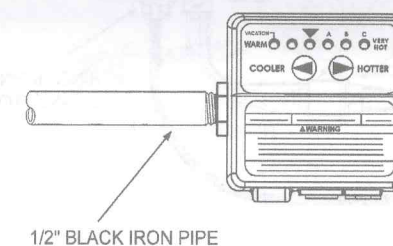

FIGURE 7.
9. Thread a straight section of 1/2 inch diameter pipe into Intelli-vent™ Thermostat Control, (184768 Series), see Figure 7.